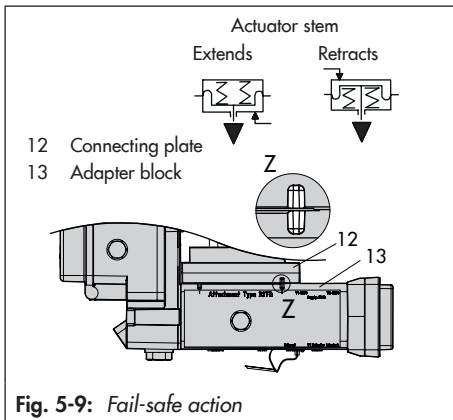

Fig. 5-9: Fail-safe action
7. Insert the screws (13.1) through the middle holes of the adapter block (13).
8. Place the connecting plate (12) together with the seal (12.1) onto the screws (13.1) corresponding to the fail-safe action "actuator stem extends" or "actuator stem retracts". The fail-safe action that applies is determined by aligning the groove of the adapter block (13) with the groove of the connecting plate (12) (Fig. 5-9).